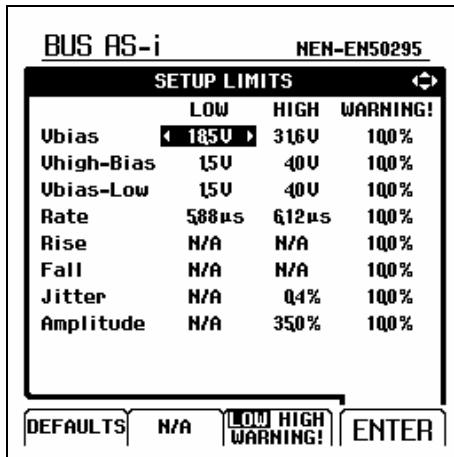

Figure 4-5. Setup Limits Menu Screen
- ①  From the test screen open the SETUP LIMITS menu. You will see a screen like Figure 4-5. The header shows the bus type.
- ②  Select the signal property for which you want to set the limit.
- ③  Select the level to be adjusted: LOW, HIGH or ! WARNING